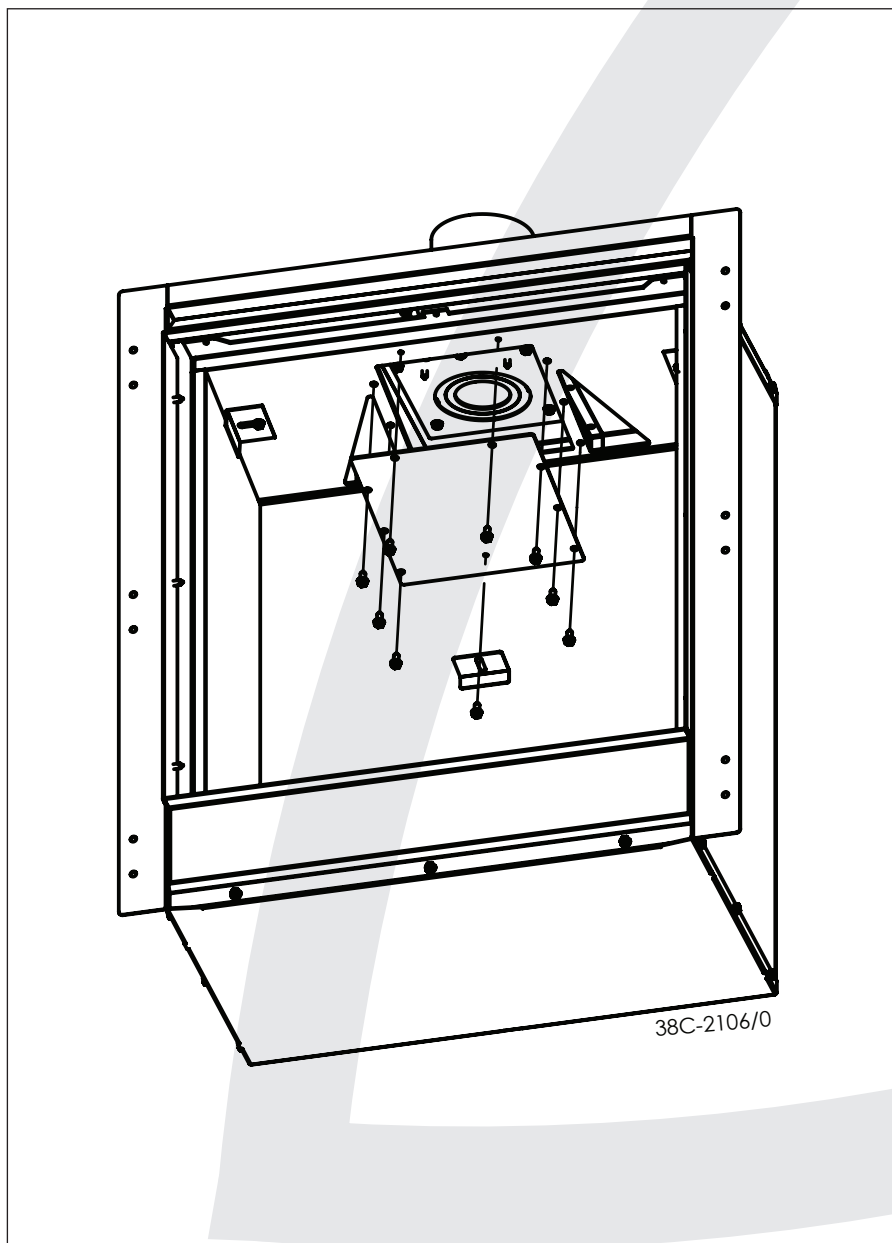

Fig. 2
- Remove the cover plate by unscrewing the self-tapping screws located in the top of the appliance (fig. 2).